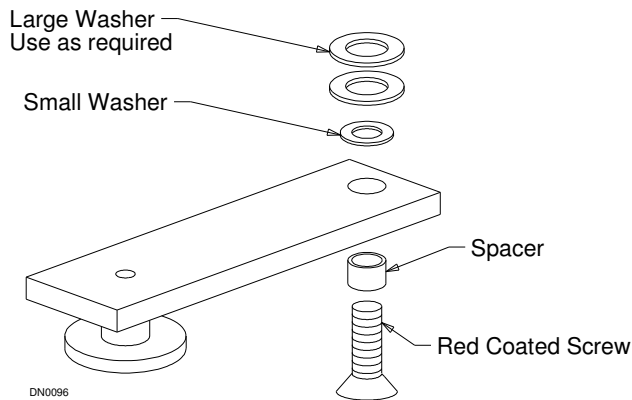

Figure 16
14. Assemble limit arm (See Figure 16). Rest wheel of limit arm inside upper rail of swing panel. Install red coated screw in factory drilled hole on bottom of header. Use one or two large washers as required.